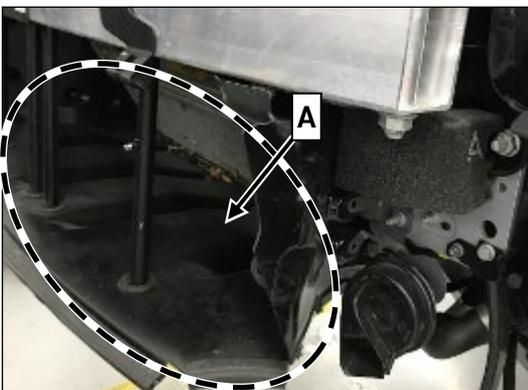

Figure 1
6. Remove air ducting (A, Figure 1).